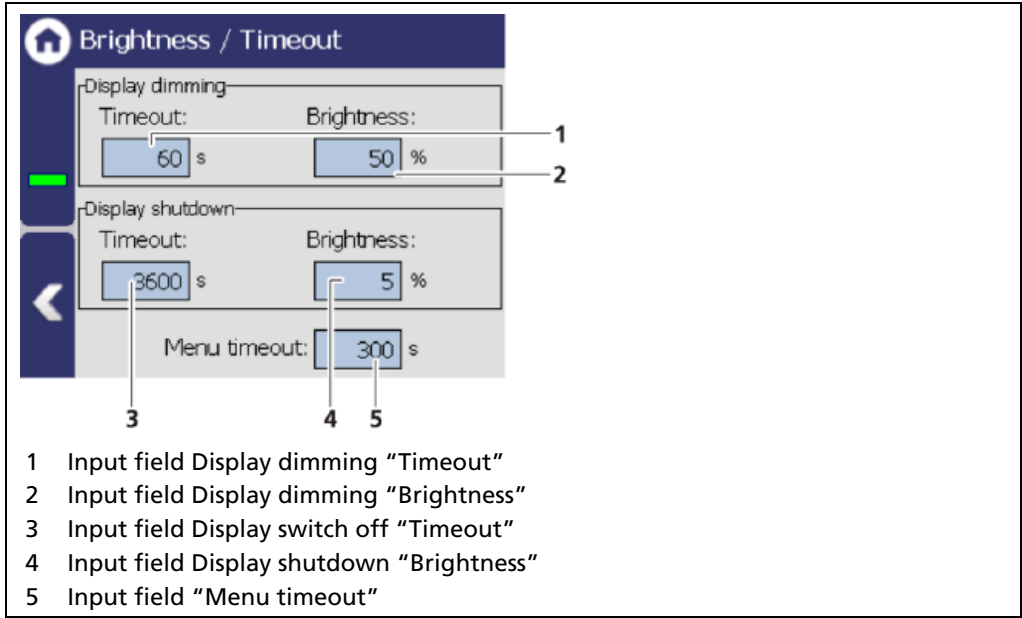

Fig. 33    Brightness / Timeout
Display dimming	In the field Display dimming, clicking the input fields allows the entering of the brightness (Fig. 33, item 2) in percent, that is set after expiry of the time (Fig. 33, item 1).
Display shutdown	In the field Display shutdown, clicking the input fields allows the entering of the brightness (Fig. 33, item 4) in percent, that is set after expiry of the time (Fig. 33, item 3).
Menu timeout	Under "Menu timeout" clicking on the input field (Fig. 33, item 5) changes the time period (seconds) in which the menu view changes to the standard view.